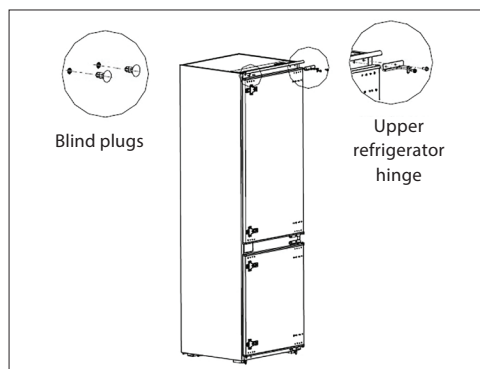

Fig. 3
1. Remove the blind plugs and the upper hinge of the refrigerator (Fig. 3) from the upper part of the appliance. Place the refrigerator door in a safe place.